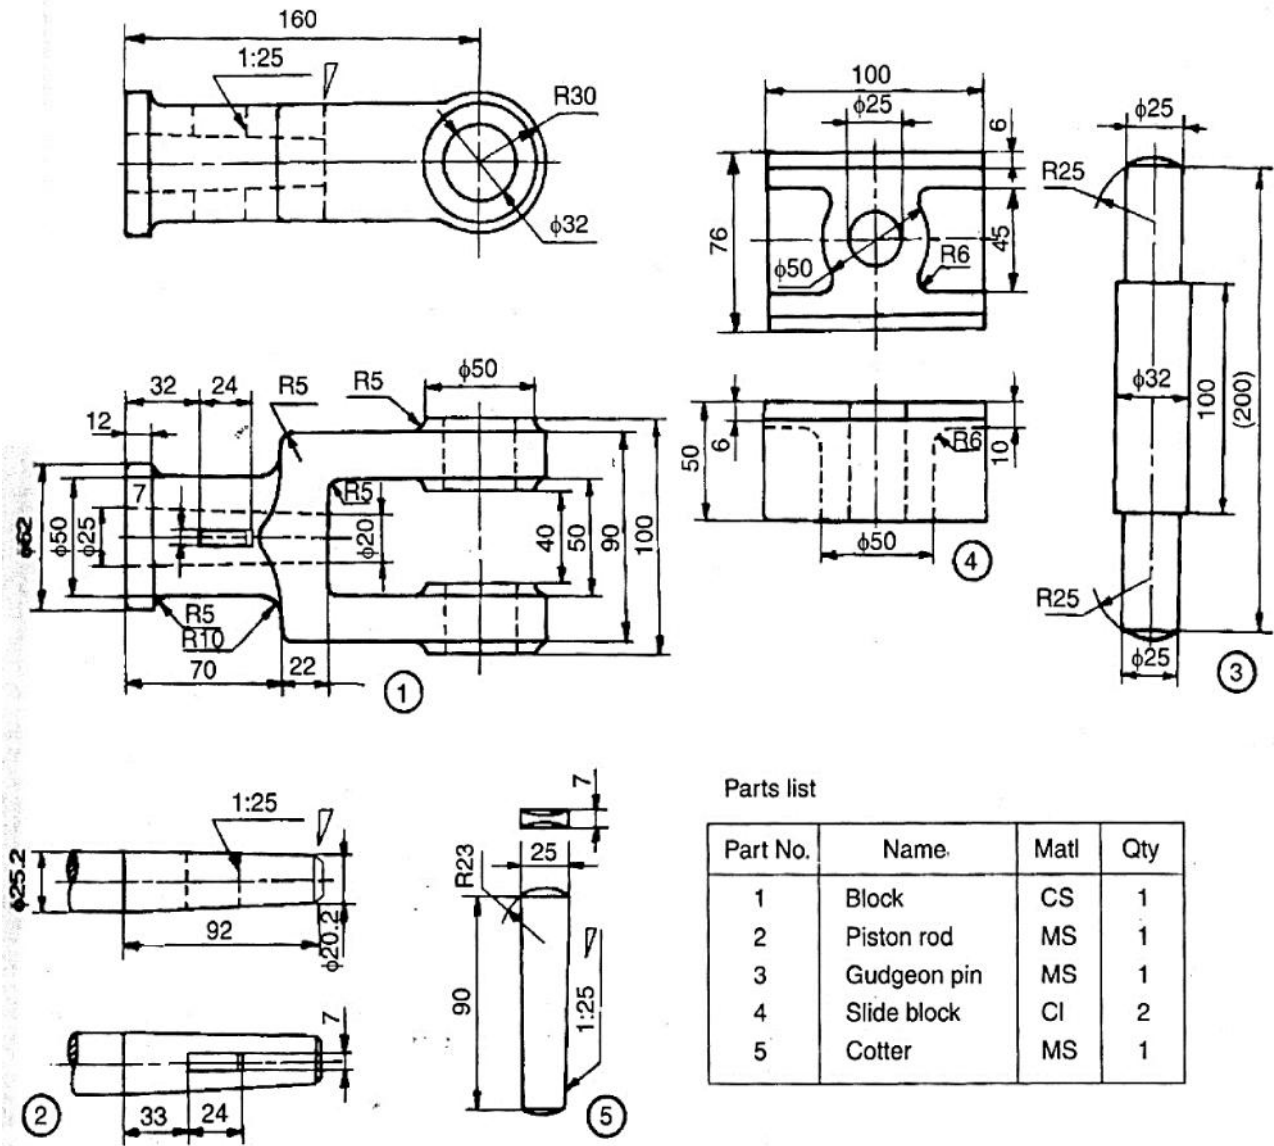

Fig. 2 Steam engine crosshead
5. Assemble the parts shown in fig.2 and draw, (i) half sectional view from the front, with bottom half in section and (ii) view from above.